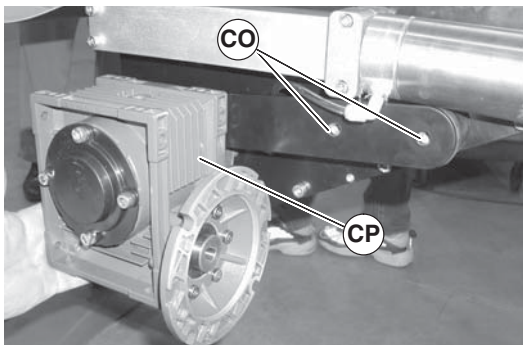

Figure 77
3. Remove screws (Figure 77, item CO) and remove gearmotor (CP) (Gearhead shown with motor removed for clarity, motor can remain attached to gearhead).